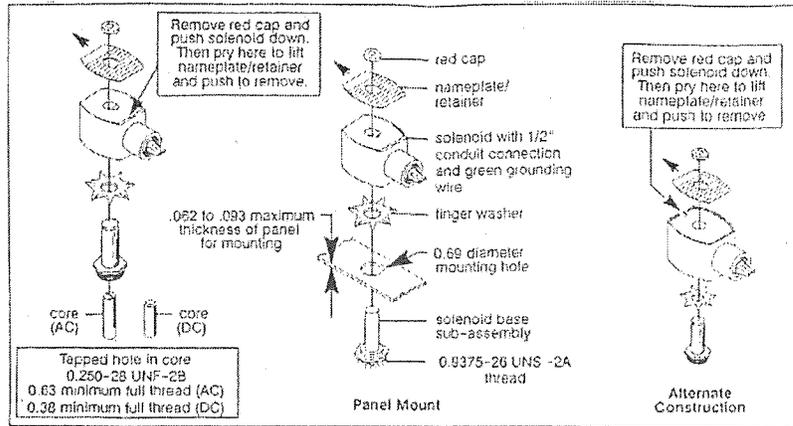

Figure 1. Series 8003G solenoids
**COIL REPLACEMENT (REF. FIG. 1)**
**VALVE DISASSEMBLY AND REASSEMBLY (REF. FIG. 1)**